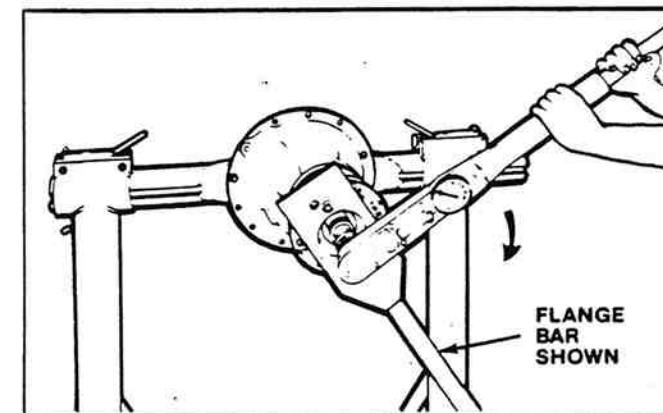

Figure 2-48. Torquing Drive Pinion Nut.
- Tighten the nut on drive pinion to minimum 800 ft. lbs. (1,085 Nm), maximum 1,100 ft. lbs. (1,492 Nm) (Figure 2-48).